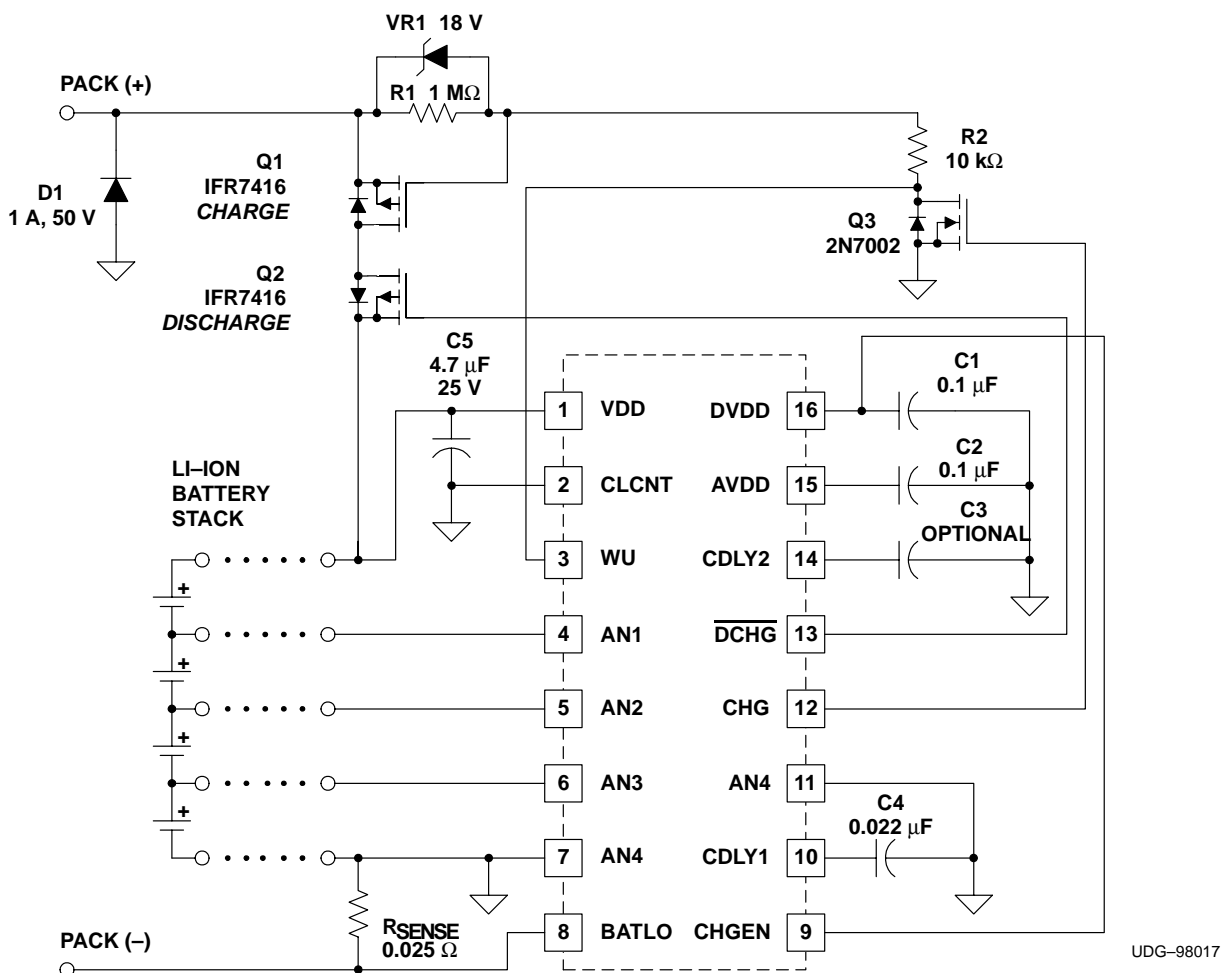
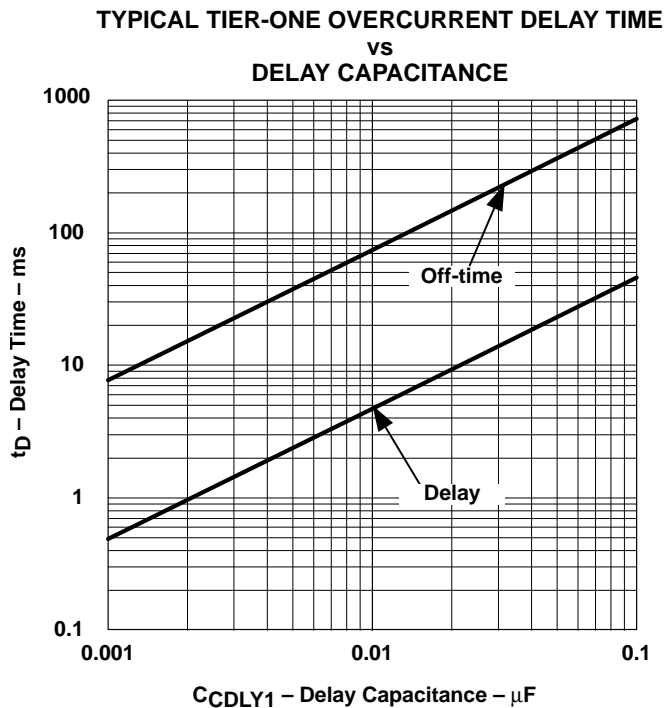

Figure 2. Four-Cell Lithium-Ion Protector Application Diagram
Figure 4
Figure 2 shows a four-cell protector with optional components to protect the charge FET from excessive gate-to-source transients. In this application, the Zener diode VR1 and the resistor R2 are optional. They protect the MOSFET Q1 from excessive open-circuit charger voltage. Diode D1 protects MOSFET Q2 from inductive kick during turn-off.
The use of a small N-channel level shifter (Q3 in the application diagrams) allows the IC to interface with the high-side charge FET (Q1), even in the presence of a runaway charger. Only the drain-source voltage rating of the charge FET limits the charge voltage that the protection circuit can withstand. The wakeup (WU) pin is designed to handle input voltages greater than VDD, as long as the current is limited. In the examples shown, the charge FET's gate-source resistor (R1) provides this current limiting. Note that in Figure 2, a resistor and zener (R2 and VR1) have been added to protect Q1 against any possibility of a voltage transient exceeding its maximum gate-source rating.
The first-tier threshold is 150 mV nominal, corresponding to 6 A using a .025- Ω sense resistor as shown in the examples of Figure 1 and Figure 2. If the pack-discharge current exceeds this amount for a period of time, determined by the capacitor on the CDLY1 pin, it then enters the hiccup mode. The first-tier hiccup duty cycle is fixed at approximately 6%, minimizing power dissipation in the event of a sustained overload. The absolute on and off times of the discharge FET (Q2) are controlled by the CDLY1 capacitor. A curve relating the delay (on time) to this capacitor value is shown in Figure 4. The off time is approximately 17 times longer than the on time.
In the examples shown in Figure 1 and Figure 2 (with CDLY1 = .022 μ F), the first-tier overcurrent on time is approximately 10 msec, while the off time is approximately 170 msec, resulting in a 5.9% duty cycle for currents over 6 A (but less than 15 A). If no CDLY2 capacitor is used, the second-tier on time is less than 200 μ sec (assuming no stray capacitance), resulting in a duty cycle of about 0.1% for currents over 15 A. If CDLY2 = 22pF, the typical on time for currents exceeding 15 A is approximately 800 μ sec, resulting in a duty cycle of 0.5%.
In the case of a short circuit, the di/dt that occurs when the discharge FET is turned off can result in a significant voltage undershoot at the pack output due to stray inductance. This undershoot can potentially exceed the breakdown voltage rating of the discharge FET. A clamp diode (D1 in Figure 1, Figure 2, and Figure 3), or a capacitor across the pack output, protects against this possibility. A diode also provides protection from a reverse-polarity charger.